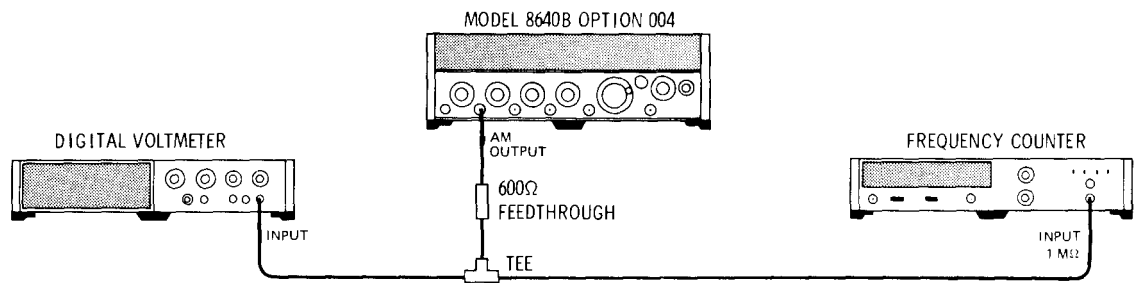

Figure 4-16. Internal Modulation Oscillator Test Setup
1. Connect equipment as shown in Figure 4-16 after setting Signal Generator's controls as follows: